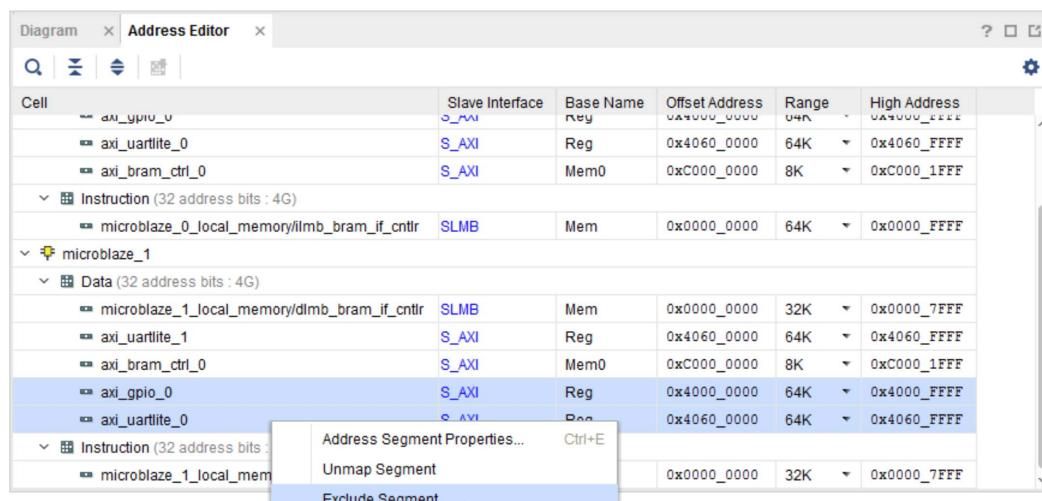

Figure 4-40: Excluding Unwanted Slaves from Memory Map
- Next, “exclude” the unwanted slaves from the memory map of `microblaze_1` by selecting them in the address editor, right-clicking, and selecting **Exclude Segment**, as shown in Figure 4-40.